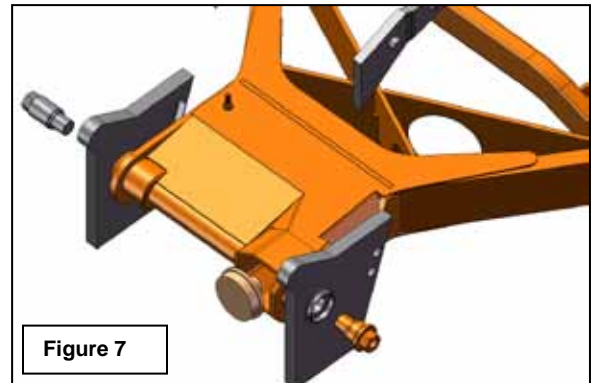

Figure 7
- a. Install Champion swing arm (ensure bearings and bushings are present and properly positioned in swing arm and with drive shaft tunnel to left hand side (LHS)) to the vehicle using the supplied pivot bolts (shouldered bolt on the LHS Figure 7
- d. Install RHS OEM pivot lock nut. Hold pivot bolt while tightening lock nut with Honda special tool (Honda PN 07ZMA-MCAA101), to 72 lb.ft. (108 N-m). Fig. 7 Actual torque is 80 lb.ft. but with the special offset tool the torque is 72 lb.ft.